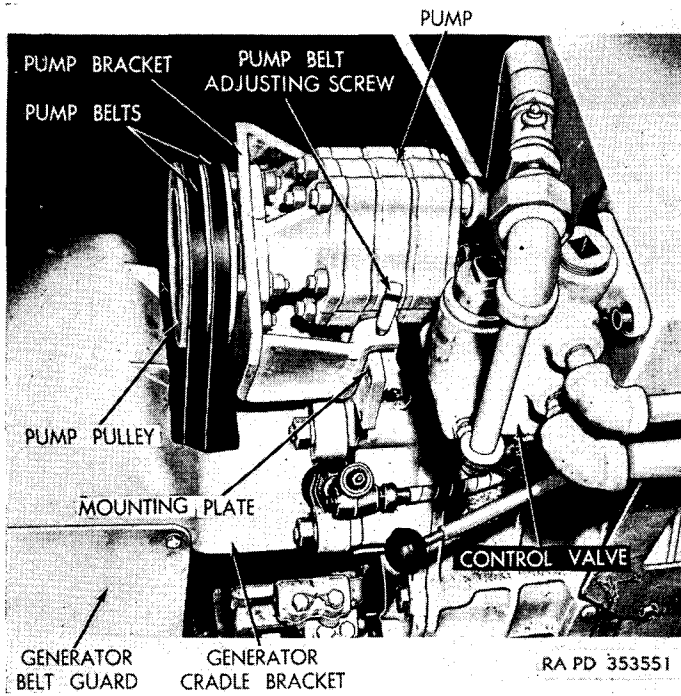
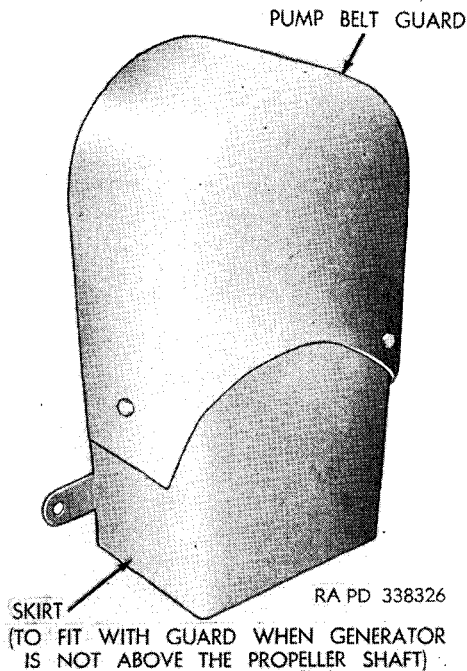

Figure 27. Hydraulic pump and control valve.
Figure 29. Pump belt guard and skirt.
p. **INSTALL GENERATOR CRADLE BRACKET.** Place the altered generator cradle bracket over the double end studs on the transmission and secure with nuts and lock washers. Place belts in position on pump drive flange and pump pulleys (fig. 27).
q. **ADJUST TENSION OF PUMP DRIVE BELTS.** Loosen locking nut in pump bracket and turn the adjusting screw (fig. 27) until belts have 1-inch deflection. Tighten locking nut when tension is correct.
t. **INSTALL PUMP DRIVE BELT GUARD.** Install pump drive belt guard (fig. 29) and fasten to pump mounting plate (fig. 27) with two screws on the right side of guard. On early model tanks with generator on engine or alongside the propeller shaft, attach skirt to the belt guard.